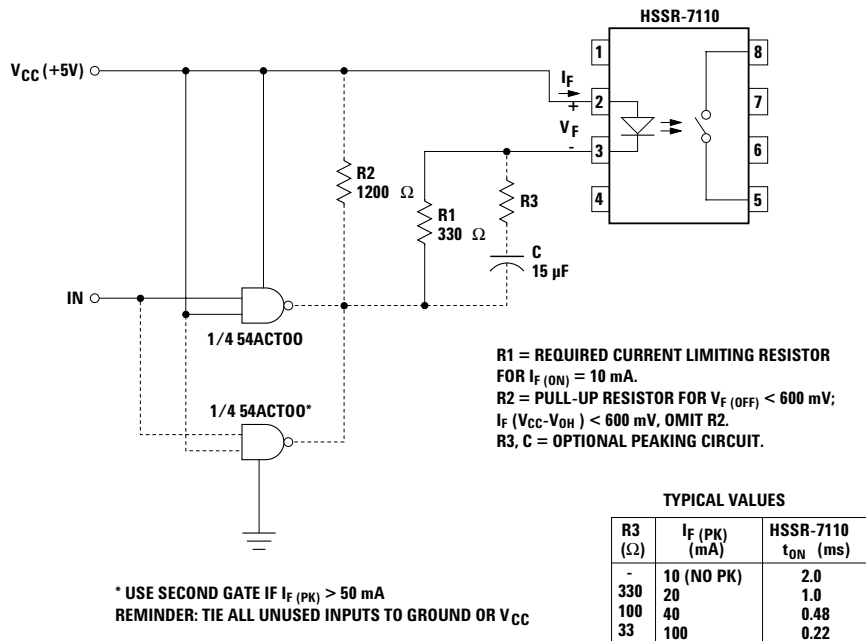

Figure 1. Recommended Input Circuit.
- For a faster turn-on time, the optional peaking circuit shown in Figure 1 may be implemented.
*Input Circuit:* The drive circuit of the electro-mechanical relay coil needs to be modified so that the average forward current driving the LED of the HSSR-7110 does not exceed 20 mA. A nominal forward drive current of 10 mA is recommended. A recommended drive circuit with 5 volt  $V_{CC}$  and CMOS logic gates is shown in Figure 1. If higher  $V_{CC}$  voltages are used, adjust the current limiting resistor to a nominal LED forward current of 10 mA. One important consideration to note is that when the LED is turned off, no more than 0.6 volt forward bias should be applied across the LED. Even a few microamps of current may be sufficient to turn on the HSSR-7110, although it may take a considerable time. The drive circuit should maintain at least 5 mA of LED current during the ON condition. If the LED forward current is less than the 5 mA level, it will cause the HSSR-7110 to turn on with a longer delay. In addition, the power dissipation in the output power MOSFETs increases, which, in turn, may